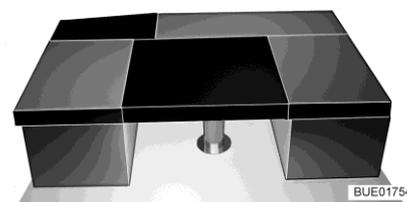

Fig. 163 After conversion
- Place the rectangular additional cushion on the table (between the seat cushions of the benches, see Fig. 163).